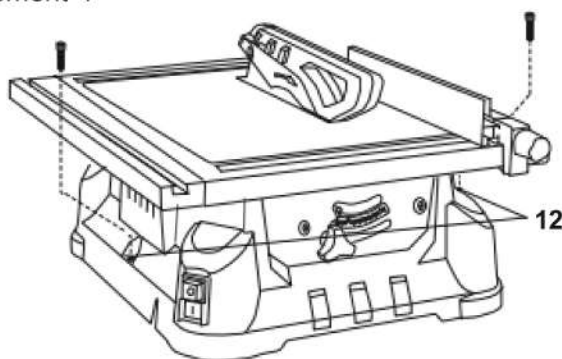

Fig. 9
- > Place the table saw on a flat and stable workbench. Mark the locations of the mounting holes (12) on the workbench.
- > Place the table saw on the workbench by aligning its mounting holes (12) with the mounting holes on the workbench.
- > Attach the table saw to the workbench using the appropriate assembly kits (not included) (fig. 9).